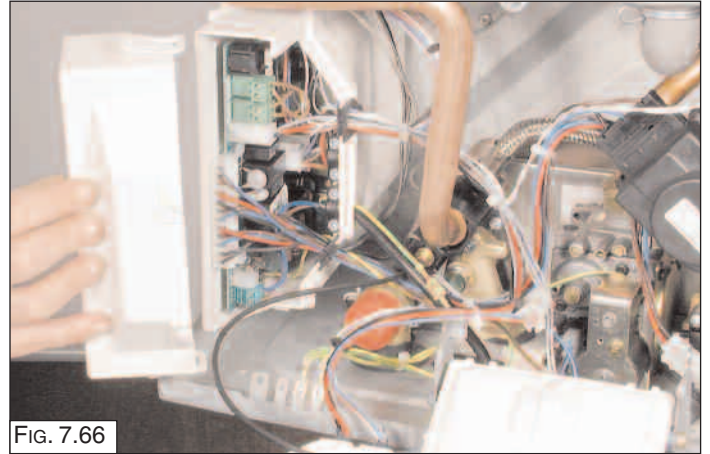

FIG. 7.66
1. Remove the inspection cover of the PCB box (FIG. 7.66);